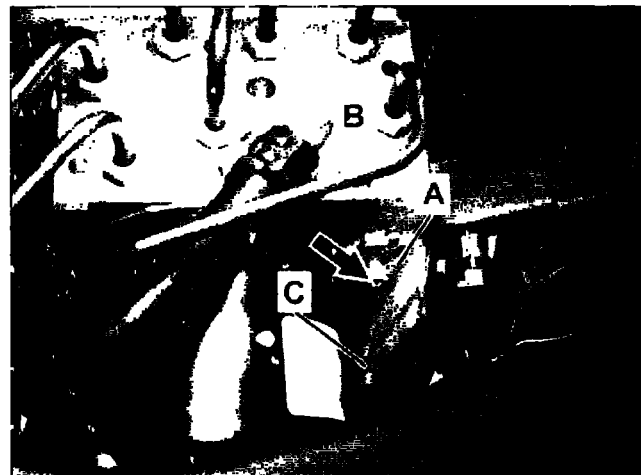

Figure 16
15. Attach bracket (A, Figure 16) to the SBC hydraulic unit (B, Figure 16):
- In the event self tapping screw (arrow) is broken during installation of bracket (A) perform step 16 then continue with campaign (installation of bracket due to breakage of mounting screw will **not** be covered under warranty).
- Position bracket (A, Figure 16) on SBC hydraulic unit (B), reinstall self tapping screw (arrow) and torque to 7 Nm.
17. Insert a cable tie through slots (C, Figure 16) in bracket (A), **do not** close cable tie.